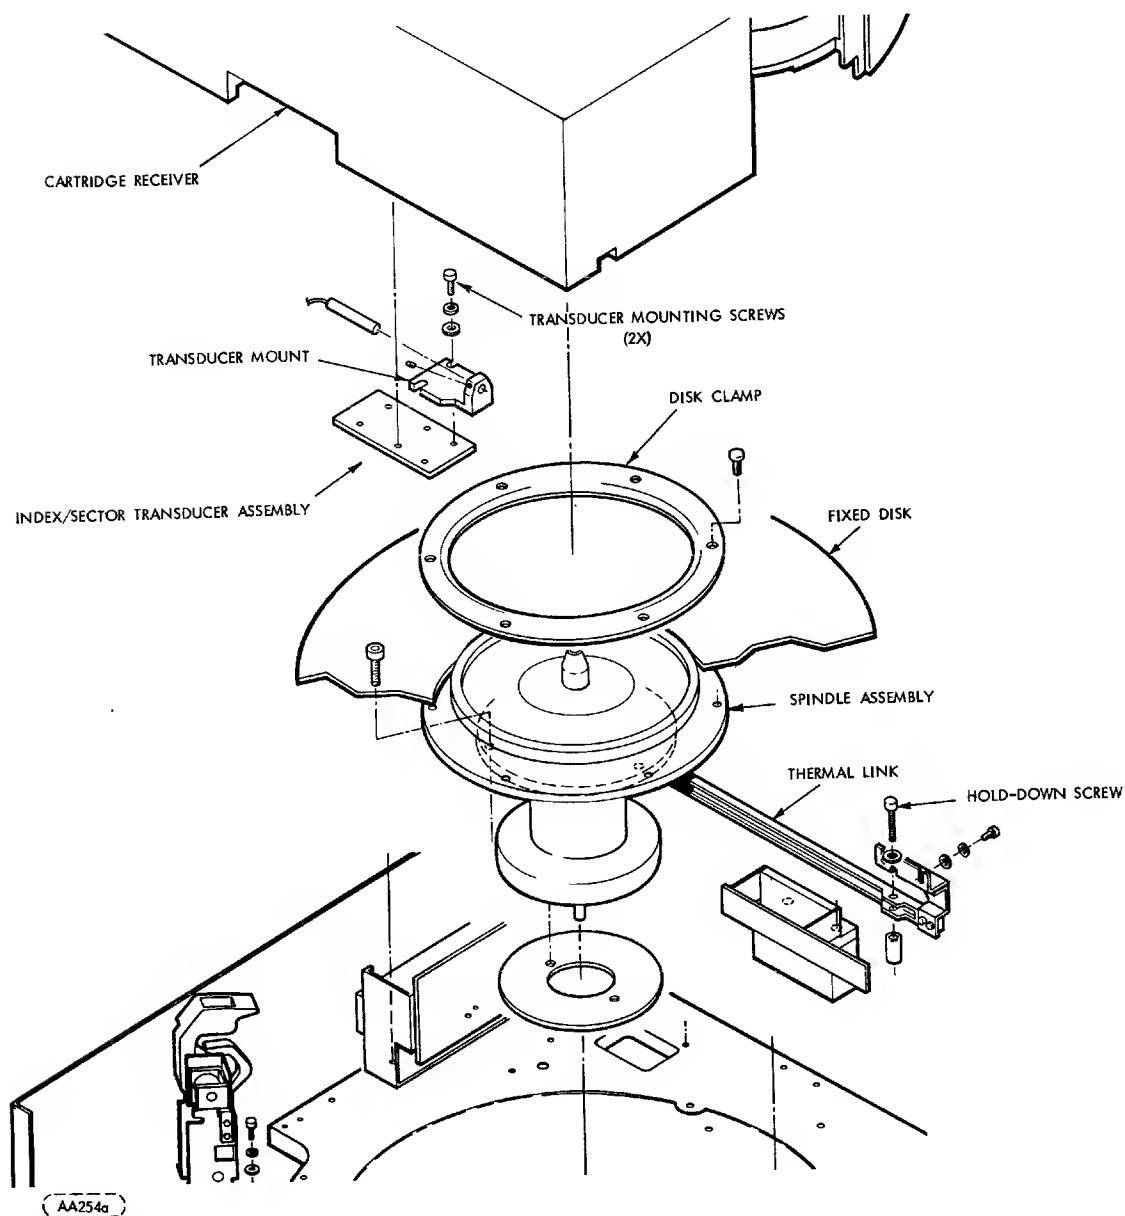

FIGURE 6-8. FIXED DISK REMOVAL
12. Remove fixed disk clamp (see Figure 6-8).